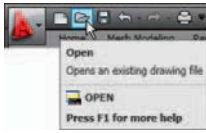
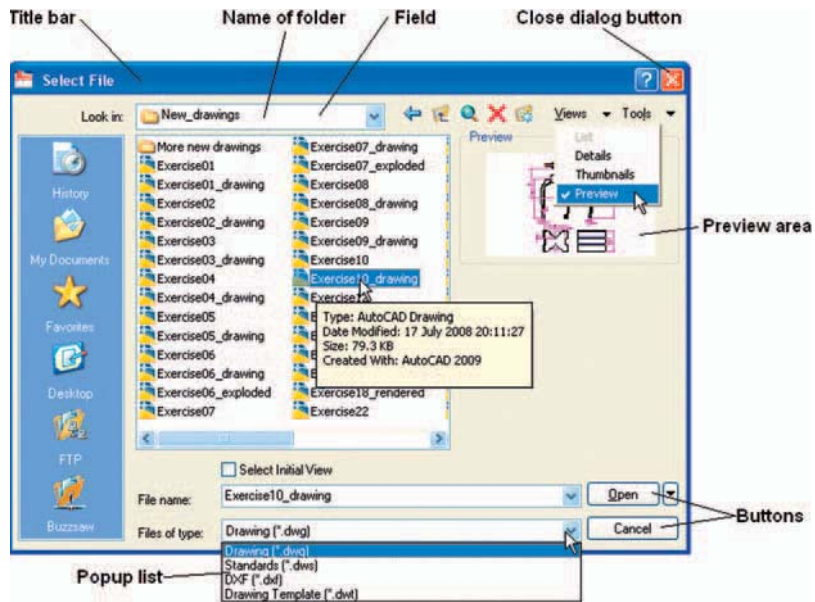
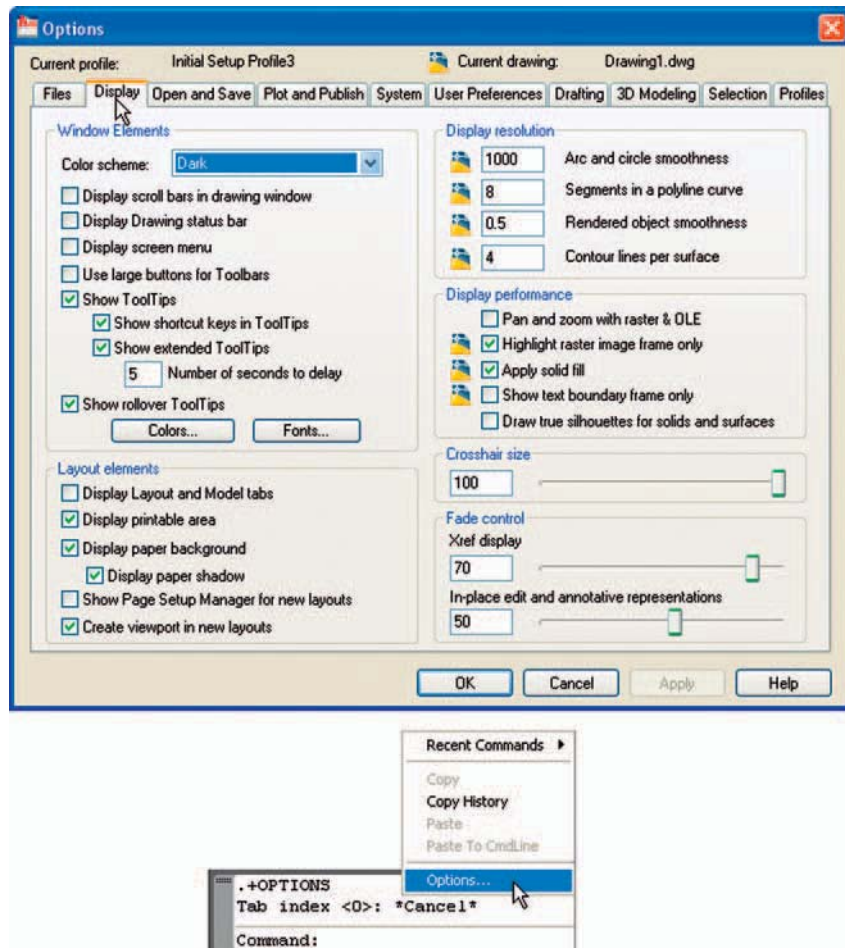

Fig. 1.14 Opening the **Select File** dialog from the **Open** icon in the title bar
Fig. 1.15 The **Select File** dialog
Fig. 1.16 Part of the Options dialog
Examples of dialogs are shown in Figures 1.15 and 1.16. The first example is taken from the **Select File** dialog (Fig. 1.15), opened with a *click* on **Open ...** in the **Quick Access Toolbar** (Fig. 1.14). The second example shows part of the **Options** dialog (Fig. 1.16) in which many settings can be made to allow operators the choice of their methods of constructing drawings. The **Options** dialog can be opened with a *click* on **Options ...** in the *right-click* dialog opened in the command palette.
- **Preview area:** available in some dialogs – shows a miniature of the selected drawing or other feature, partly shown in Fig. 1.15.